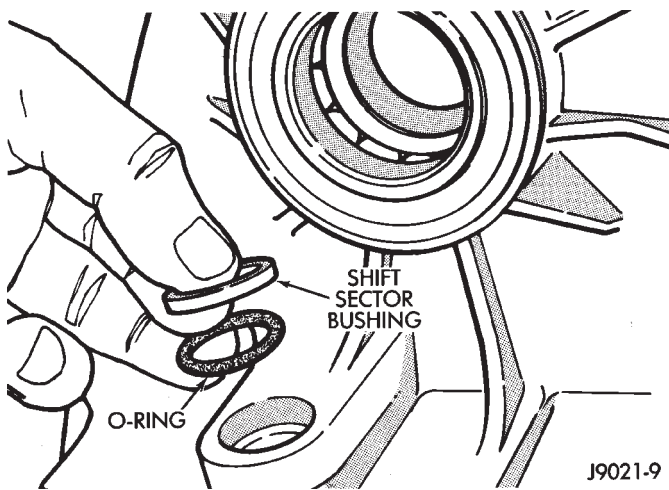

Fig. 20 Removing/Installing Sector Shaft Bushing And O-Ring
(32) Remove sector shaft bushing and O-ring (Fig. 20).